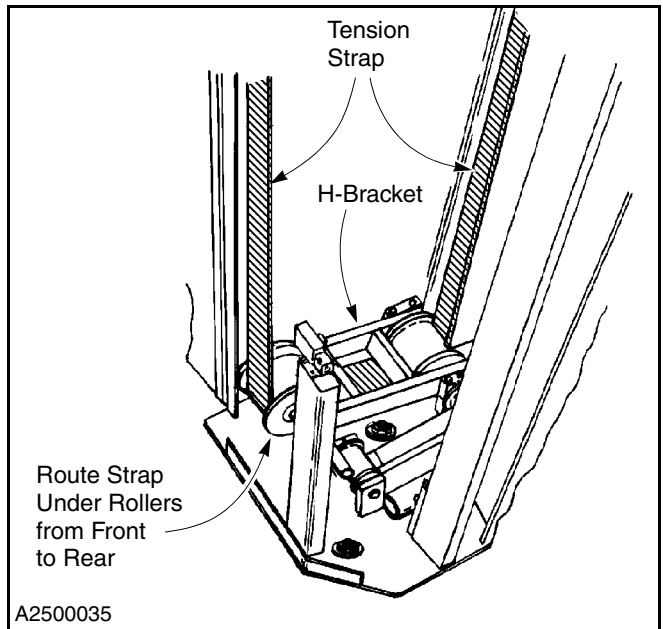
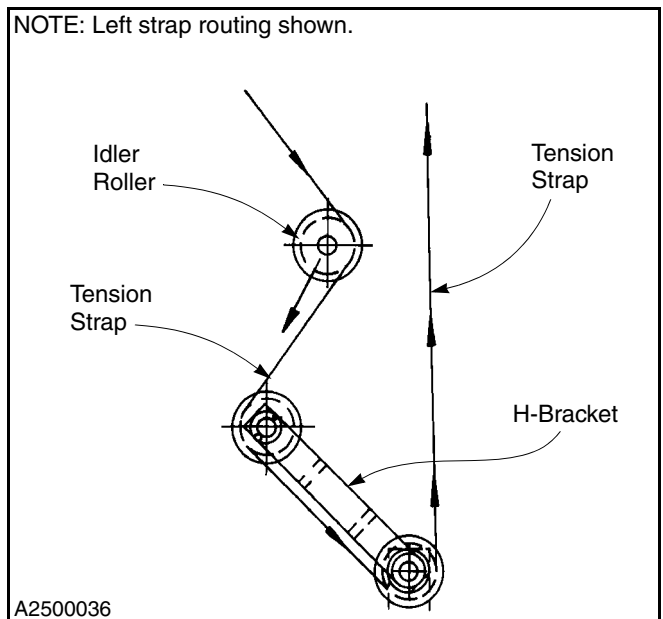
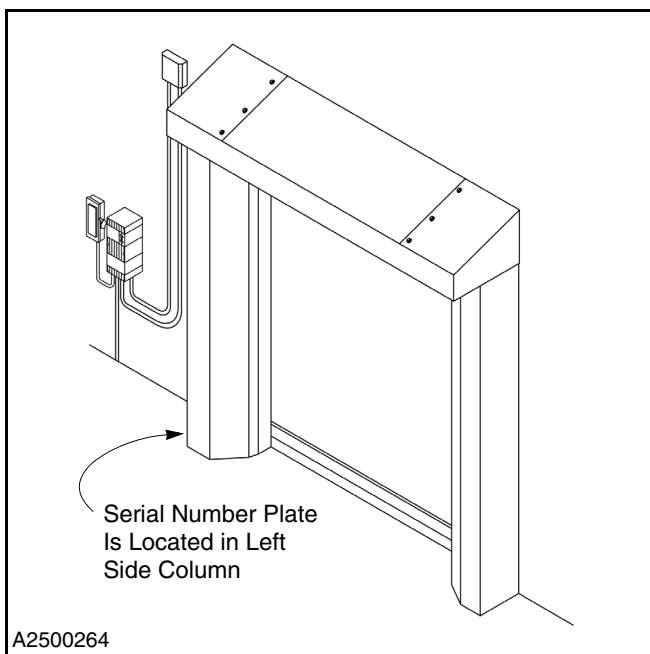

Figure 74
Figure 75
Figure 82
6. Route the tension strap as shown in Figure 74. If the door is equipped with an idler roller, route the strap around the idler as shown in Figure 75 and Figure 82.
3. To ensure the correct parts are shipped, please include the serial number of your door with the order. The serial number plate is located inside the left-hand side column, just above the tension spring. (See Figure 82.)
Your **DOOR SERIAL NUMBER** information can be found in three universal locations. These are at the inside of either side column (approximately eye level), on the drive motor, and on the inside door of the System 4 control panel. (See Figure 82.)